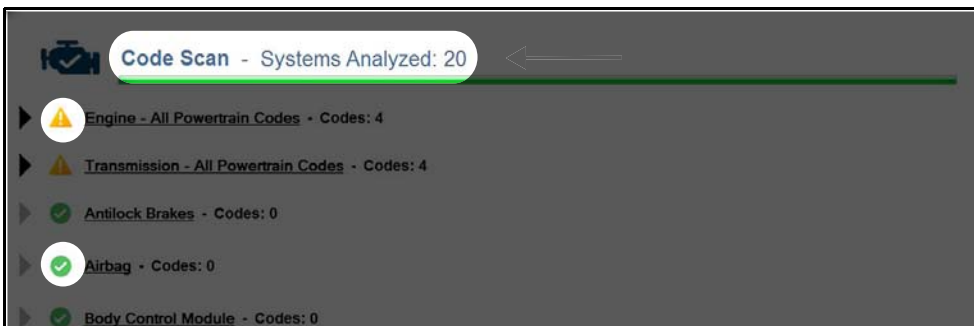

Figure 5-19 Code Scan (scanned system total and status icons)
After selecting the report type, the Code Scan results screen (Figure 5-19) opens and an active scan of the vehicle control modules starts.
- **The total number of systems (modules) detected** (Figure 5-19).
Quick reference indicators are used to show system code status (Figure 5-19):